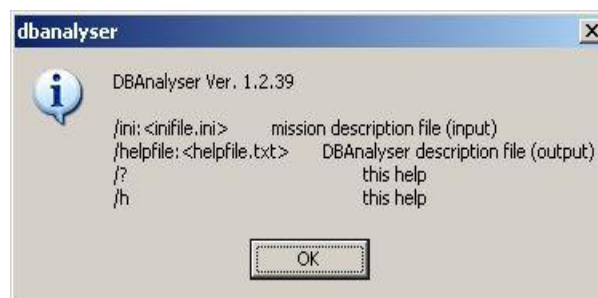

Figure 21: Prompt
- As shown in Figure 21, you can find out what parameters are available in the director of the DBAnalyser with the **/h** or **/?** switch.